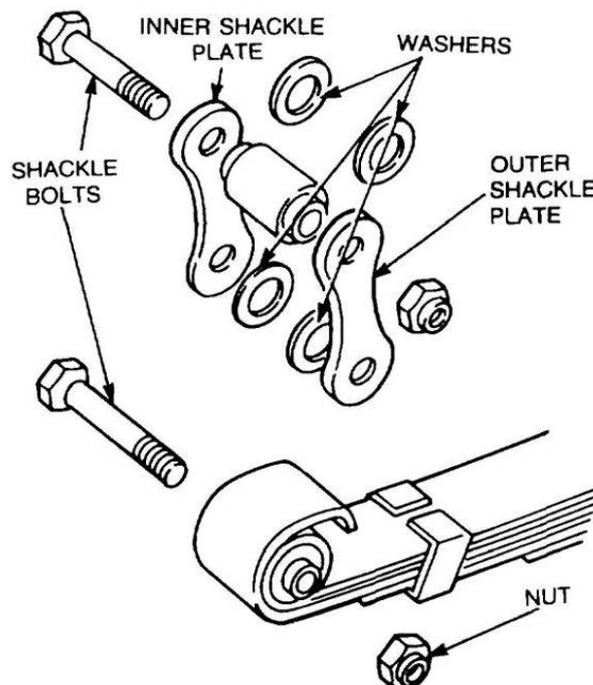

Figure 154 Removal of the Shackle Bolts (Rocker Beam End)
- g. Using a suitable drift, drive the shackle bolts from the spring eye and the rocker beam. Remove the shackle bolts, the two flat washers and the inner shackle plate (Figure 154).